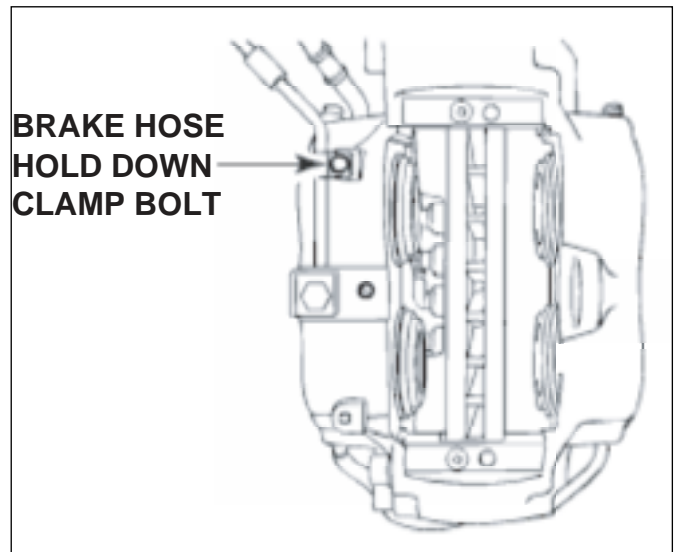

Fig. 5-5. Brake hose hold down bolt.
3. Remove the brake hose hold down clamp bolt, if equipped, figure 5-5.